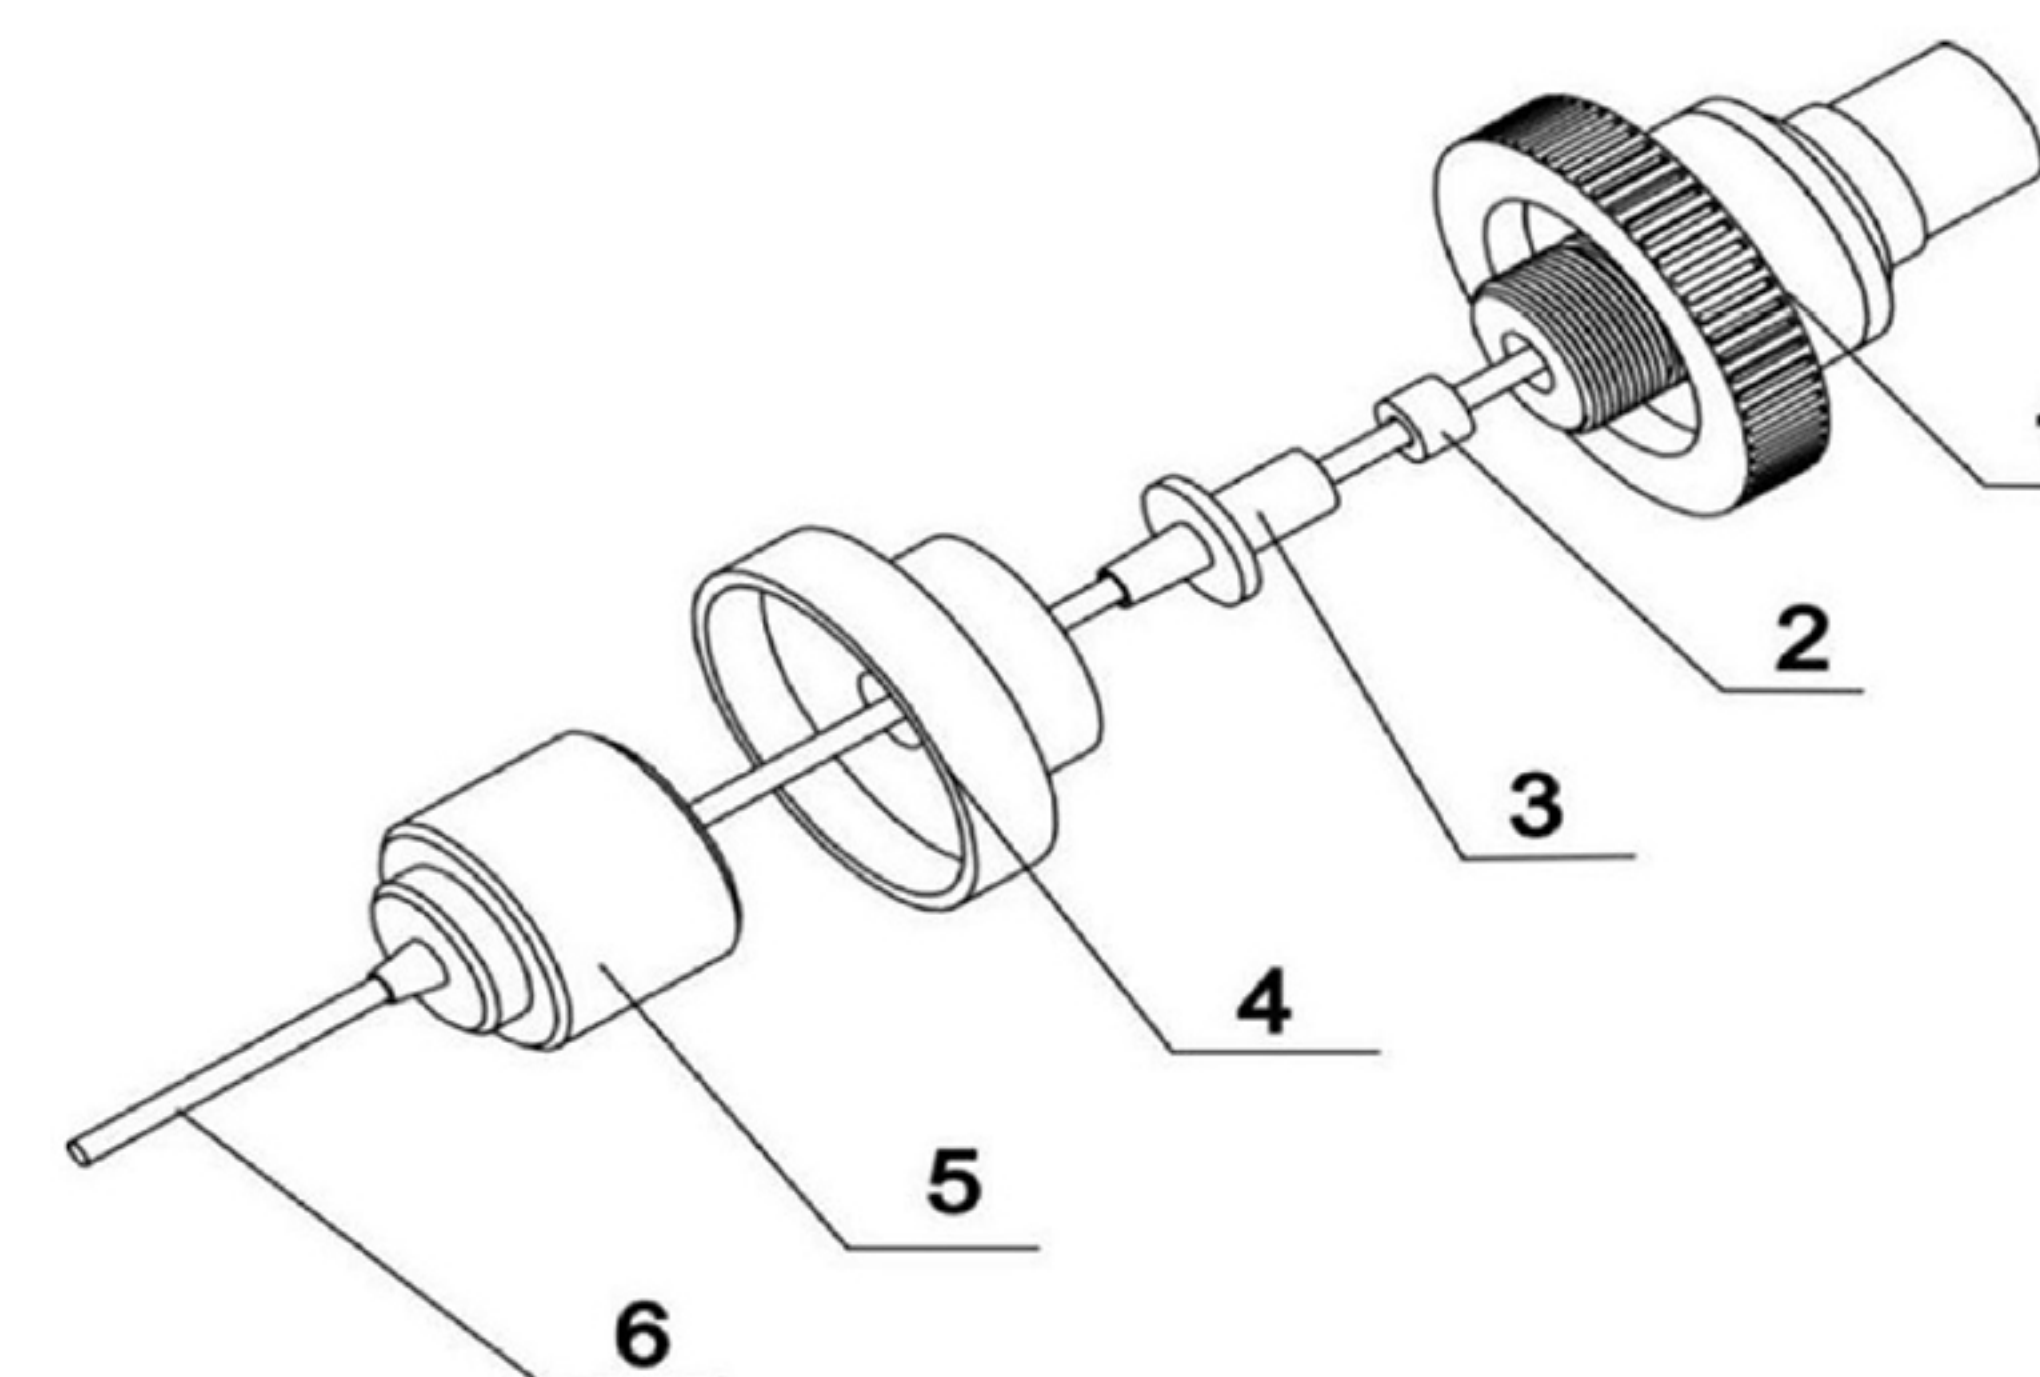

Figure 5 Electrode installation structure
- (1) As shown in Figure 5, first place the waterstop(2) into the rotating spindle, install the drill chuck connecting handle (by the combination of 3, 4, 5), and loosen the drill chuck with the special key of the drill chuck (5), insert the new electrode from the middle of the drill chuck through the seal ring and finally tighten the drill chuck. (Note: When the electrode diameter is small, it is necessary to prevent the electrode from being in the center of the drill chuck and deflecting into the groove, so that the electrode will be flattened and eccentric when clamped!) After the work is completed, the drill chuck should be oiled and rustproof. If you want to change the electrodes of different diameters and the difference in electrode diameter is large, you need to replace the waterstop plug at the same time. When replacing the waterstop, first remove the electrode, drill chuck, nut and connecting handle, then briefly open the pump to use the high pressure water flow to flush the seal. After replacing the sealing ring (2) of the corresponding specification, install the mounting electrode as described above.